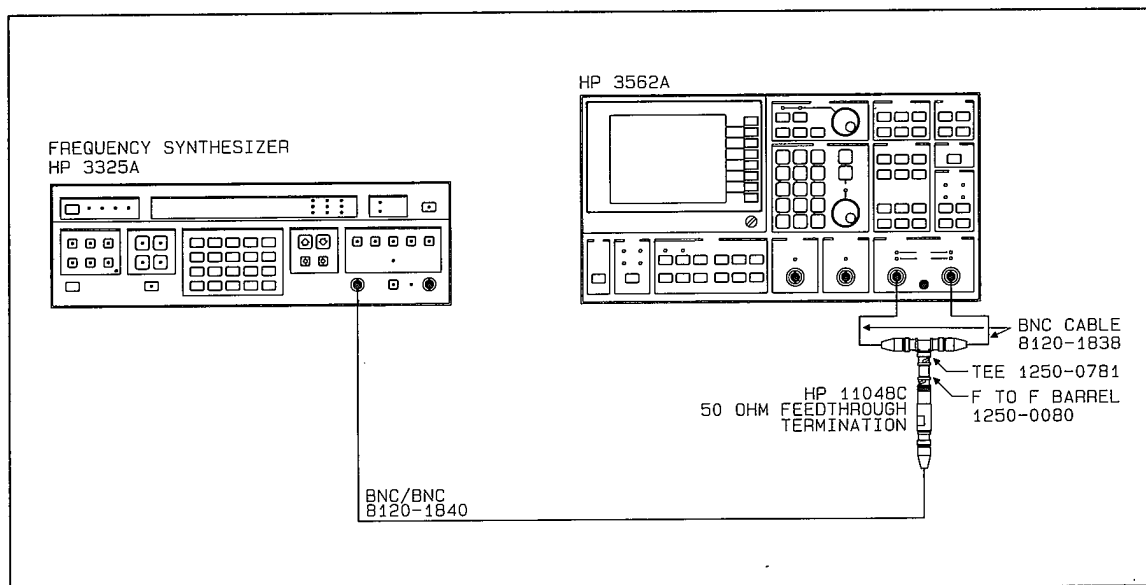

Figure 2-15 Anti-Alias Filter Response Test Setup
- A. Connect the test instruments as shown in figure 2-15. Refer to "Initial Equipment Setup," paragraph 2-20, for unspecified parameters.